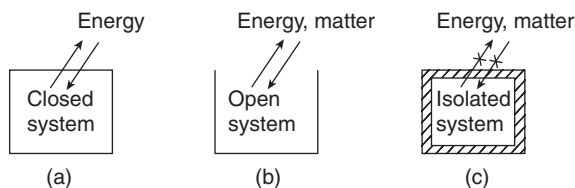

Figure 2 (a) Closed system; (b) open system and (c) isolated system.
1. **Closed system:** In such a system, matter can neither be added nor removed, since the boundary of the system is sealed. The system is however, not insulated. In such a system, matter cannot be transferred but energy can be transformed in the form of heat or work to and from the surroundings [Figure 2(a)]. For example, gas contained in a cylinder fitted with a piston.
2. **Open system:** In such a system, matter can be added or removed from the system, since the boundary is open. The system is also not insulated. In such a system, both energy and matter can be transferred to and from the surroundings [Figure 2(b)]. For example, hot water tumbler placed on a table.
3. **Isolated system:** In such a system, neither energy nor matter can be transferred to or from the surroundings, since the boundary is both sealed and insulated. Such a system has no interaction with the surroundings [Figure 2(c)]. For example, boiling water contained in a thermal flask.